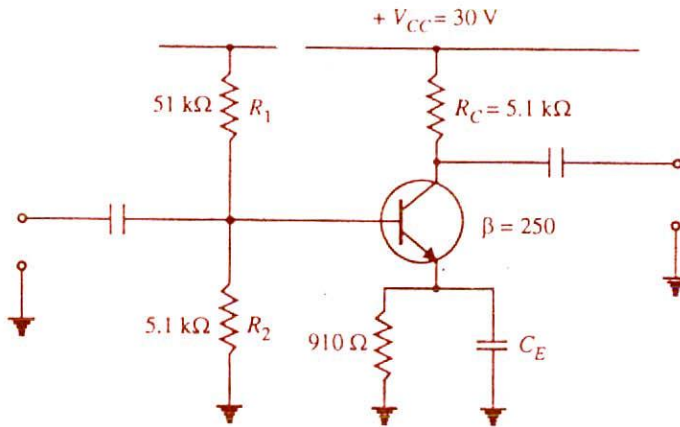

Fig. 12.34
9. Determine the voltage gain for the amplifier circuit shown in Fig. 12.34.
10. What is the input impedance of the amplifier circuit shown in Fig. 12.34 ?